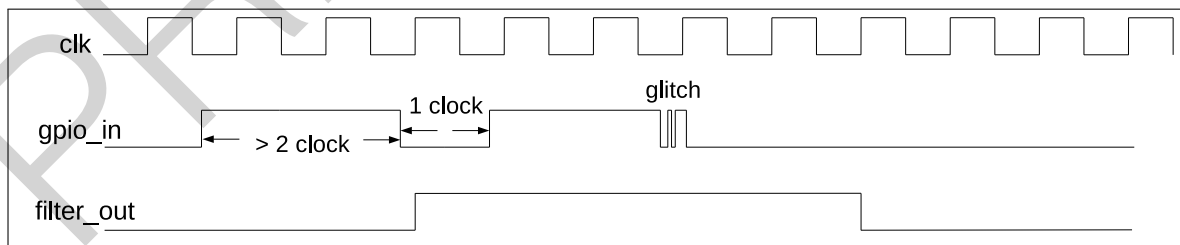

Figure 3-4. Filter Timing of GPIO Input Signals
2. Optionally enable the filter for pin input signals by setting the register `IO_MUX_FILTER_EN`. Only the signals with a valid width of more than two APB clock cycles can be sampled, see Figure 3-4.